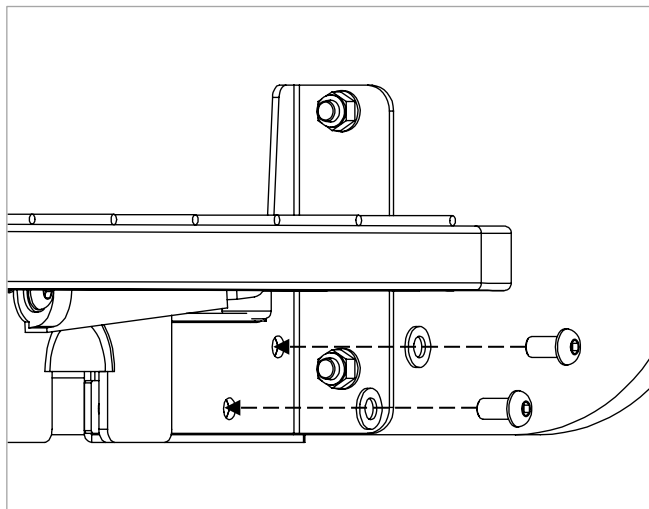

Figure 8.7
14. Align the bolt holes and secure the mounting brackets using the M8 x 20mm bolts and washers provided as shown in Figure 8.7. Tighten using the 5mm Allen key.